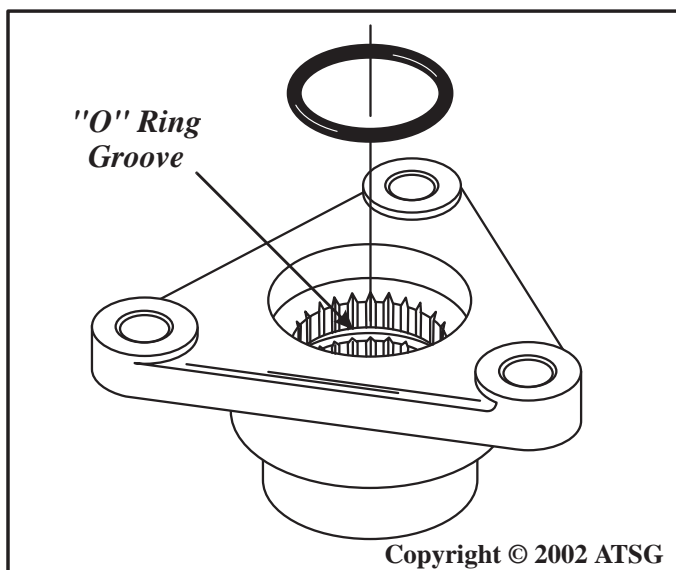

Figure 29
8. Remove and discard the "O" ring seal from the inside groove of the driveshaft yoke, as shown in Figure 29.